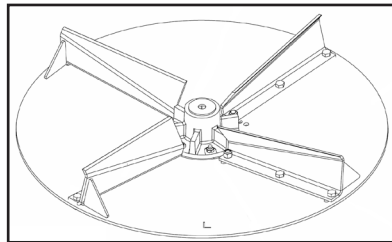

Figure 1 - LH spinner disc - gussets point counter-clockwise
- Position fin with gusset near outer edge of spinner disc per figures 1 and 2.
- Figure 1 - Gusset faces counter-clockwise for lefthand disc.
11. If spinner disc was removed completely from spreader, place spinner discs back in proper position. When facing rear of spreader, the righthand disc goes on the right side of the spinner assembly, and the lefthand disc goes on the left side. When properly installed, the discs should be positioned to each other as shown in Figures 1 and 2.